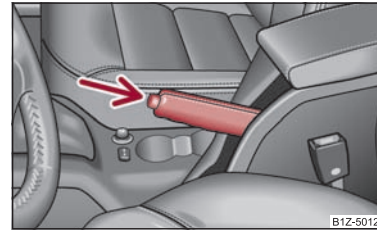

Fig. 114 Centre console: Handbrake
- Pull the handbrake lever up slightly and **at the same time** press in the locking button ⇒ fig. 114.